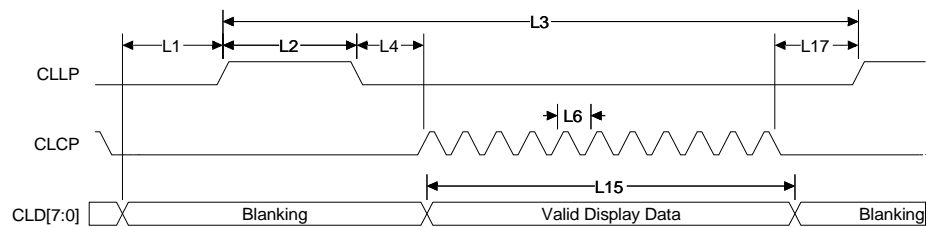
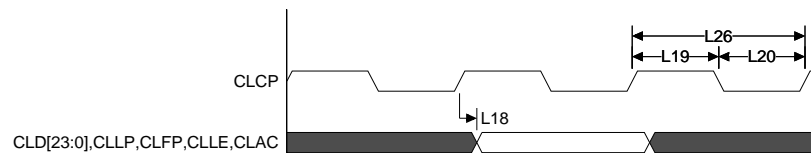

Figure 129: Horizontal timing for STN displays
Figure 135: LCD output timing
Table 474 describes the values shown in the LCD timing diagrams (Figure 129 through Figure 135).
- 7 Note that data is sampled by the LCD panel on the falling edge of the CLCP in Figure 135, "LCD output timing," on page 826). If the polarity of CLCP is inverted, this parameter is relative to CLCP falling, instead.